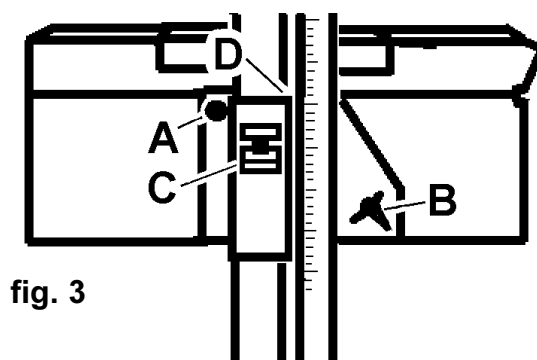

fig. 3
- 5.1.4. Squeeze the locking lever (fig. 3. C) on the vertical sliding system and move the system up or down the column until the top edge of the slider (fig. 3.D) aligns with 65cm (650mm) on the column scale. Release locking lever. Centre of lens will now be at the same height (650mm) as the centre of the headlamp.
The Headlamp Beam Setter is equipped with a spirit level located on the base of the optical box, which is visible through the transparent panel. To level the box, loosen screws (fig.3.A & B) located on the side of the box and adjust the box until the spirit level registers horizontal. Re-tighten the screws. The box level must be checked every time it is used on a different working surface.